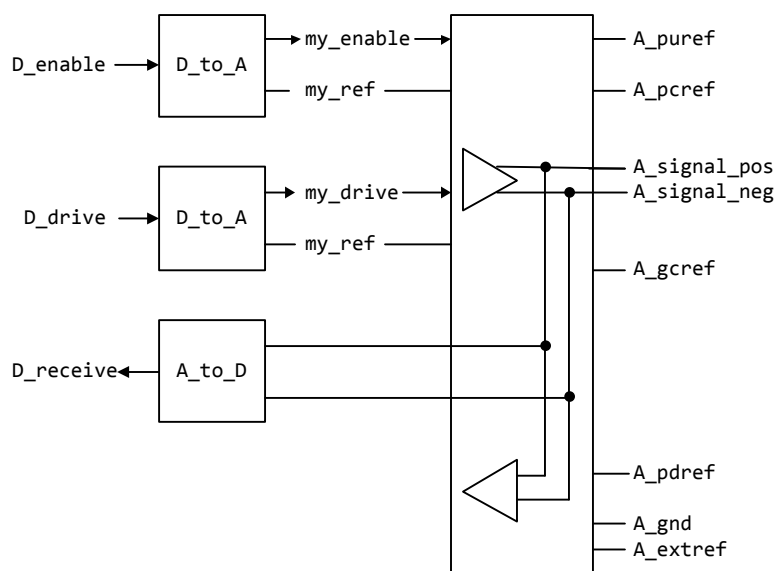

Figure 28 - Example SPICE, IBIS-ISS, Verilog-A(AMS) or VHDL-A(AMS) Implementation of a True Differential Buffer
The D_to_A or A_to_D adapters used for SPICE, IBIS-ISS, Verilog-A(MS) or VHDL-A(MS) files may be set up to control or respond to true differential ports. An example is shown in Figure 28.